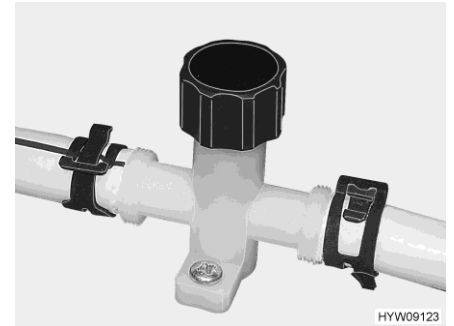

Fig. 121 Drain cock (water pipe)
- Close the drain cocks. In order to do this, turn the cap of the drain cock (Fig. 121) in a clockwise direction.